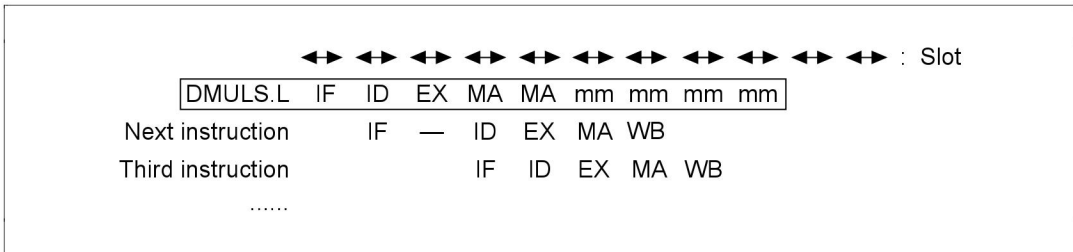

Figure 8.63 Multiplication Instruction Pipeline
The pipeline has nine stages: IF, ID, EX, MA, MA, mm, mm, mm, and mm (figure 8.63). The MA accesses the multiplier. The mm indicates that the multiplier is operating. The mm operates for four cycles after the MA ends, regardless of a slot. The ID of the instruction following the DMULS.L instruction is stalled for 1 slot (see the description of the multiply/accumulate instruction). The two MA stages of the DMULS.L instruction, when they contend with IF, split the slot as described in section 8.4, Contention Between Instruction Fetch (IF) and Memory Access (MA).